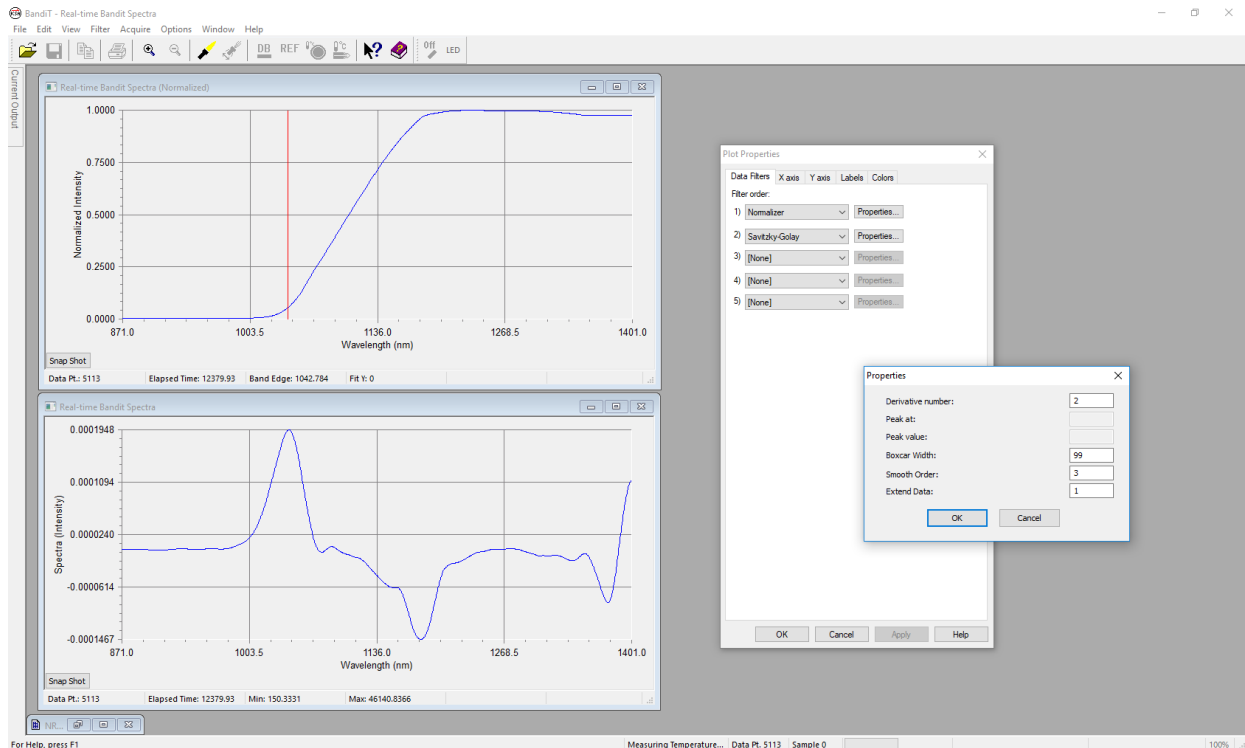

Figure 18: Real-time chart displaying the second derivative
2. As shown in **Figure 18**, right-click on the chart, select **Properties**, and then click the **Data Filters** tab.